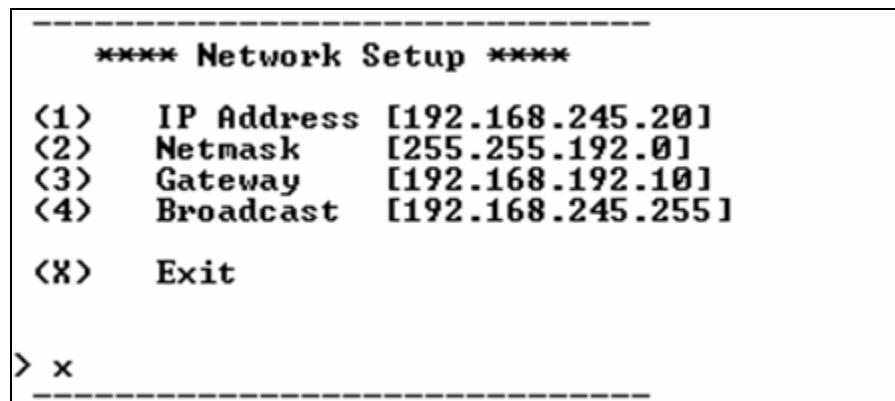

Figure 6-2: Network Setup Menu
7. A *Network Setup* screen, as shown in Figure 6-2, will appear enabling the user to enter the appropriate network information.